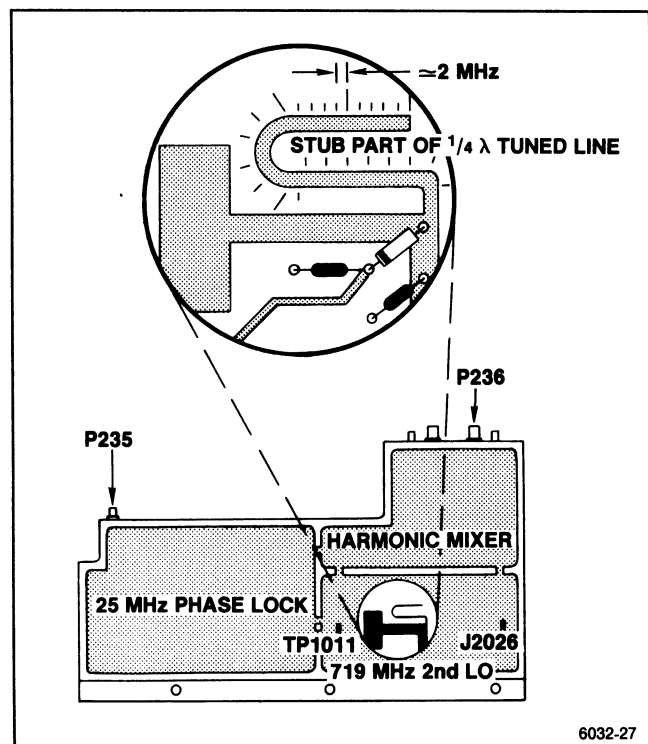

Figure 6-12. 829 MHz LO test points and connectors.
- The 2nd LO range is 714.5 MHz to 723.5 MHz (with the cover off). 719 MHz is the optimum center frequency. Frequency of the oscillator is controlled by the Tune Volts from the 25 MHz Phase Lock circuit (located at TP1011) which varies from +5 V (low end) to +11.9 V (high end) with +6.75 V to +7.5 V as the limits for operation at 719 MHz. Set the digital voltmeter to measure 12 V then connect it between TP1011 (Figure 6-12) and ground.
- Disconnect the 100 MHz reference from the 3rd Converter by unplugging P235 (Figure 6-12). The oscillator should go to its upper limit and the voltmeter indicate about 11.9 V.
- Minor adjustments to the oscillator frequency are made by shortening the U-shaped transmission line stub, off the main line. Graduation marks (see Figure 6-12) along the side of the stub provide a guide to calculate frequency correction. Each minor mark from the end or cut across the stub, represents an approximate change of 2 MHz.